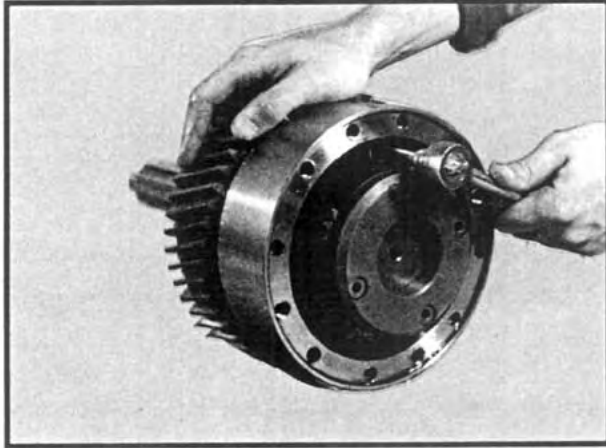

Fig 29
- Remove the (12) bolts and separate the differential case halves. Remove the internal gear and thrust washer.
- Remove the (6) 12-point cap screws securing the planet carrier to the front differential case. See Figure 29. Remove the planet carrier and sun gear assembly from the differential case assembly. Be careful not to lose the (2) dowel pins.